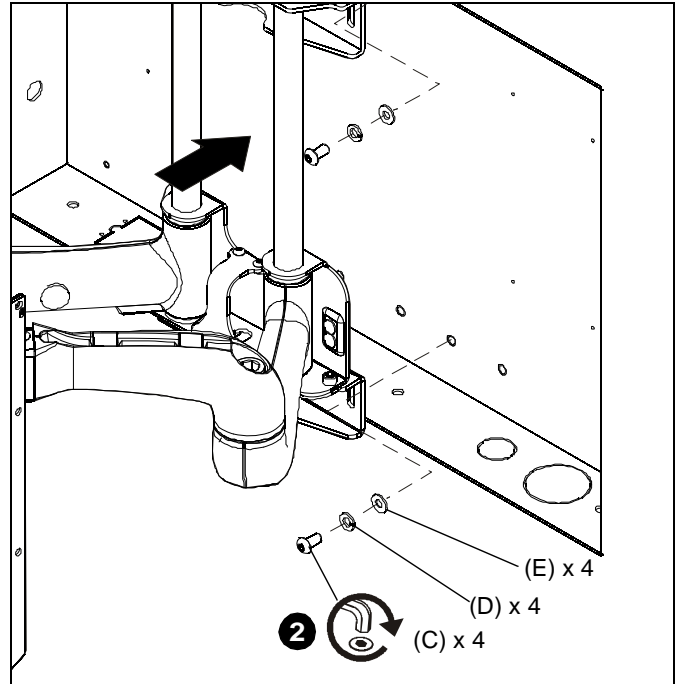

Figure 2
2. Secure swing arm to PAC501 using four 5/16-18 x 5/8" button head cap screws (C), four 5/16" lock washers (D) and four 5/16" flat washers (E). (See Figure 2)